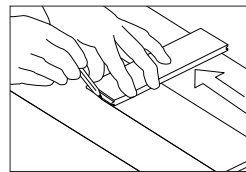

Figure 11
- Sacrificial board:** If the wall is not straight, scribe the first board (Figure 11) as necessary to maintain alignment with the chalk line. Install a sacrificial board (with a straight edge) using the appropriate fasteners for the subfloor. If a board is used for the starter row make certain the groove faces the wall.
- Wedges:** Align the first row with the wall using wedges to maintain a 1/2" (13 mm) expansion in place and to stabilize the product. If the wall is not straight, scribe the first board (Figure 11) as necessary to maintain alignment with the chalk line.